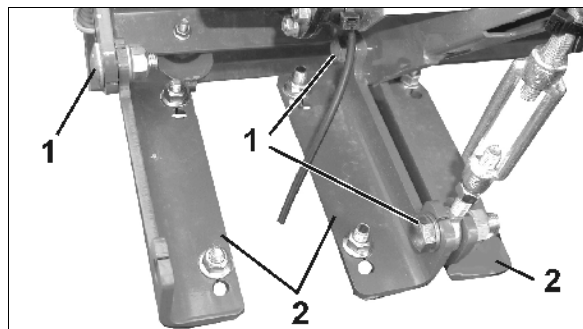

Fig. 25
- 3.2 Right: Unscrew 3 screw connections (Fig. 25/1) and remove 3 coupling parts (Fig. 25/2).